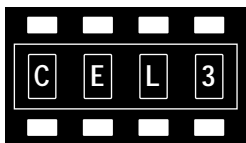

Figure 1
1. Press **RUN/SETUP** to place the dispenser in **RUN** mode (**RUN** indicator light on). The current cell number will be displayed. e.g., *CEL3*. (Figure 1)